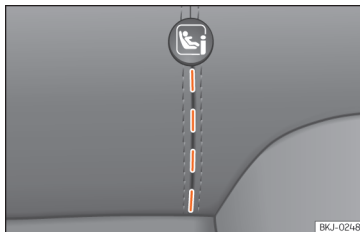

Fig. 36 Rear seat: cut-out grooves.
- Open the cut-out section behind the marked grooves to access the retaining rings »» **Fig. 36**.